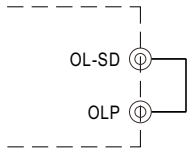

Fig. 5.1 Insert the CN3
- (2) Remove the shorting connector on CN3 that is shown in Fig 5.1, the Overload Protection Type will be "continuous constant current limiting".